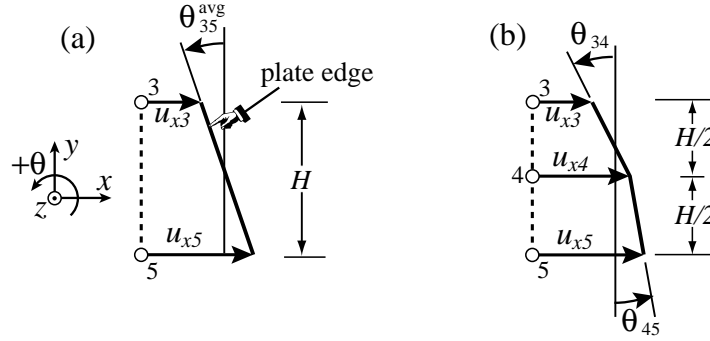

FIGURE E9.5. Geometric interpretation of plate edge rotations for Exercise 10.6.
- is defined in terms of the displacements of the nodes 3–5. From geometry, see Figure E9.5(a):
where the replacements are justified by the small-displacements and small-angles assumptions of this course. Trying to refine this estimate by accounting for the displacement of node 4, we have two angles identified in Figure E9.5(b): $\theta_{34} \approx \tan \theta_{34} \approx (u_{x4} - u_{x3})/(H/2) = 2(u_{x4} - u_{x3})/H$ and $\theta_{45} \approx \tan \theta_{45} \approx (u_{x5} - u_{x4})/(H/2) = 2(u_{x5} - u_{x4})/H$. Assuming that the rotation at node 4 is the average of these (which is reasonable since the lengths 34 and 45 are the same) we get